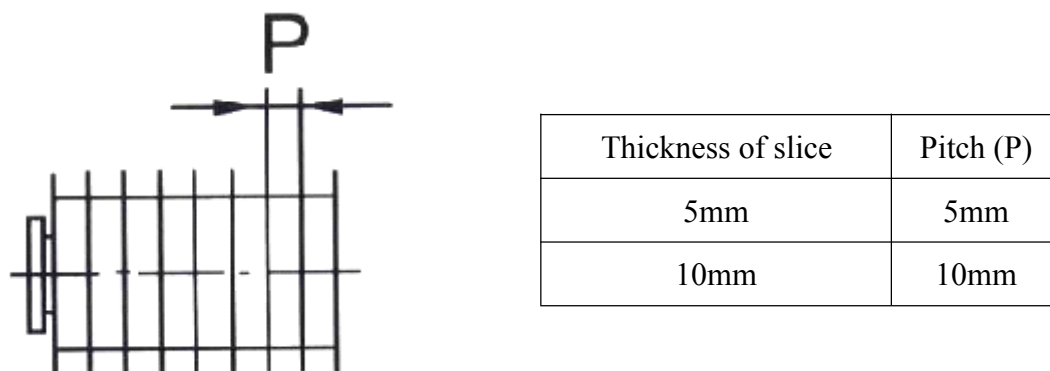

Fig. 5 Pitch of Disk diffusion knife
4.2.4.2 Replacement of disk diffusion knife: 5mm, 10mm, etc disk diffusion knives are available to be replaced, and other standard cutters can also be ordered. (Fig. 5)